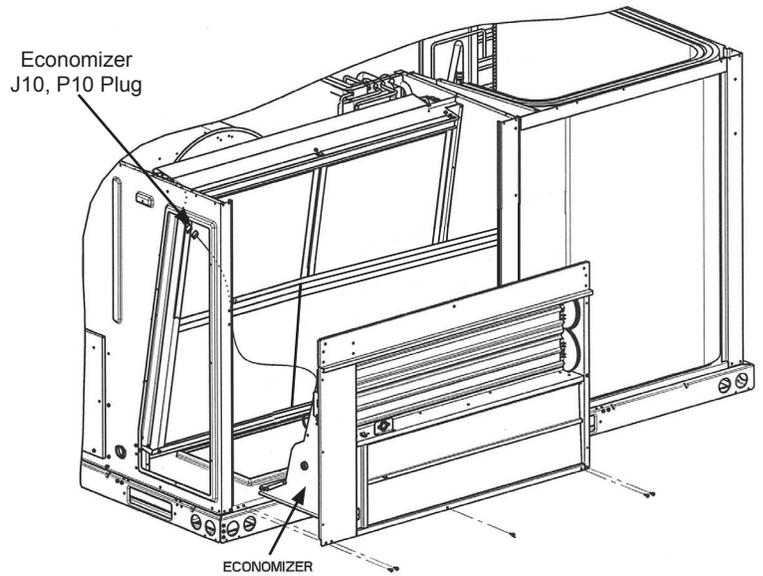

Figure 3 - Economizer Installation
4. Install damper assembly into unit under the cross support. Fit opening in bottom of damper assembly over the return air opening. See Figure 3.
4. At economizer/filter compartment, attach economizer plug (P10) to prewired harness jack (J10). See Figure 3.
5. With hood assembled, fit the mating flange on hood top underneath the "knuckle" on the top seal panel. Install the hood over economizer as shown in Figure 3, 4 and 9.